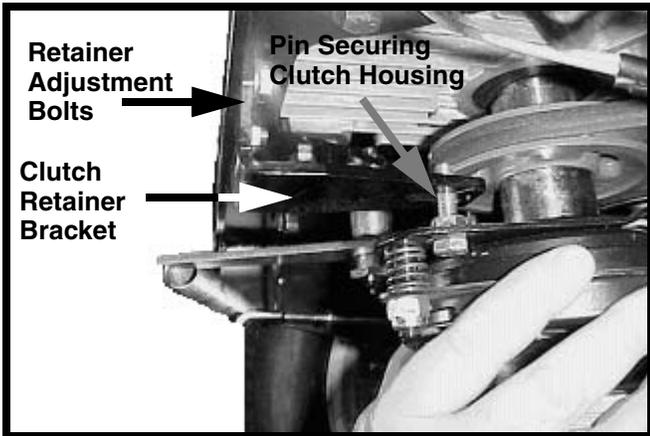

FIGURE 2
12. The clutch housing should have approximately 1/16" play within the pin-bolt & slotted hole in the bracket. See Figure 2.
13. If there is No rotational free play, loosen the carriage bolts securing the bracket to the engine base & readjust the bracket. See Figure 2.
14. If free play cannot be achieved by adjusting the retainer bracket. The pin / bolt can be adjusted within it's slotted mounting hole & the slotted hole in the bracket. See Figure 2.